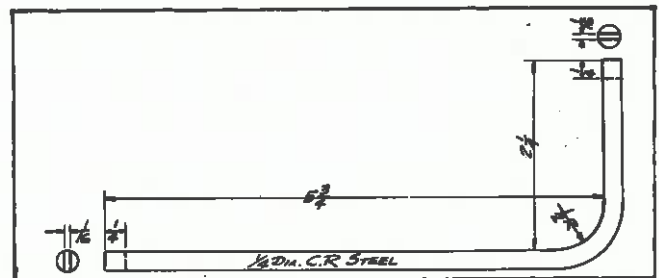

Fig. 22 — Tang Bending Tool
2. Use tool 19229 to bend spring anchor tang to get desired top speed. See Fig. 21. To make own tool, see Fig. 22.